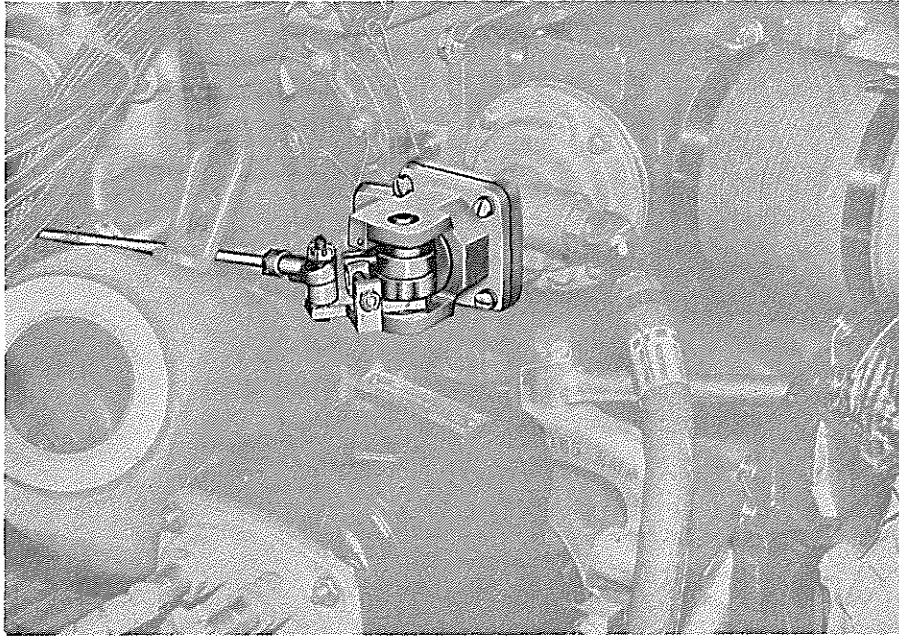

Figure 5-7. View of Fuel Injector Controller Connecting Rod Secured to Cross-Shaft Assembly in Full Boost Position
- g. Remove the controller connecting rod at the controller end. Push the controller arm against the full boost stop pin (forward). With the controller arm in this position and the throttle lever in the position obtained in the preceding step, adjust the controller connecting rod (maintaining approximately equal thread engagement on both ends) to match hole locations in both the controller arm and the connecting rod. Attach the connecting rod to the controller arm and remove the gage from the injector stop pin. See figure 5-7.